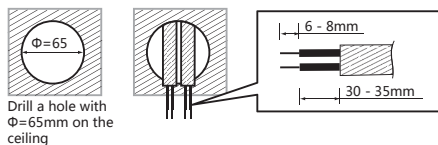

FIG.10
- To install detector, please drill a hole with diameter of 65mm on ceiling board and keep the power cable outside. Please strip off 6 - 8mm of cable sheathing for wiring (See FIG.10).